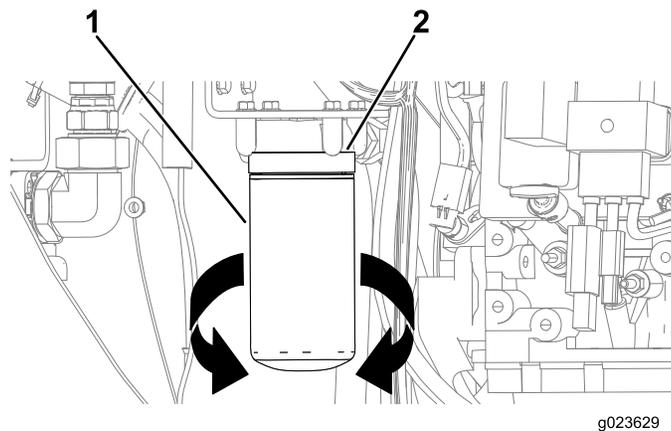

Figure 90
3. Align a drain pan or several rags under the oil filter and the oil-filter adapter (Figure 90).
4. Rotate the oil filter counterclockwise and remove the oil filter (Figure 90).
8. Align the oil filter to the oil-filter adapter, and rotate it clockwise until the seal of the oil filter contacts the oil-filter adapter (Figure 90).
9. Hand tighten the oil filter an additional 1/2 turn (Figure 90).